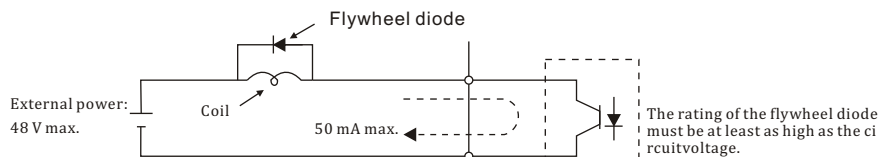

Fig 3.18 Flywheel Diode Connection
* When driving an L load, such as a relay coil, always insert a flywheel diode as shown in Figure 3.18.